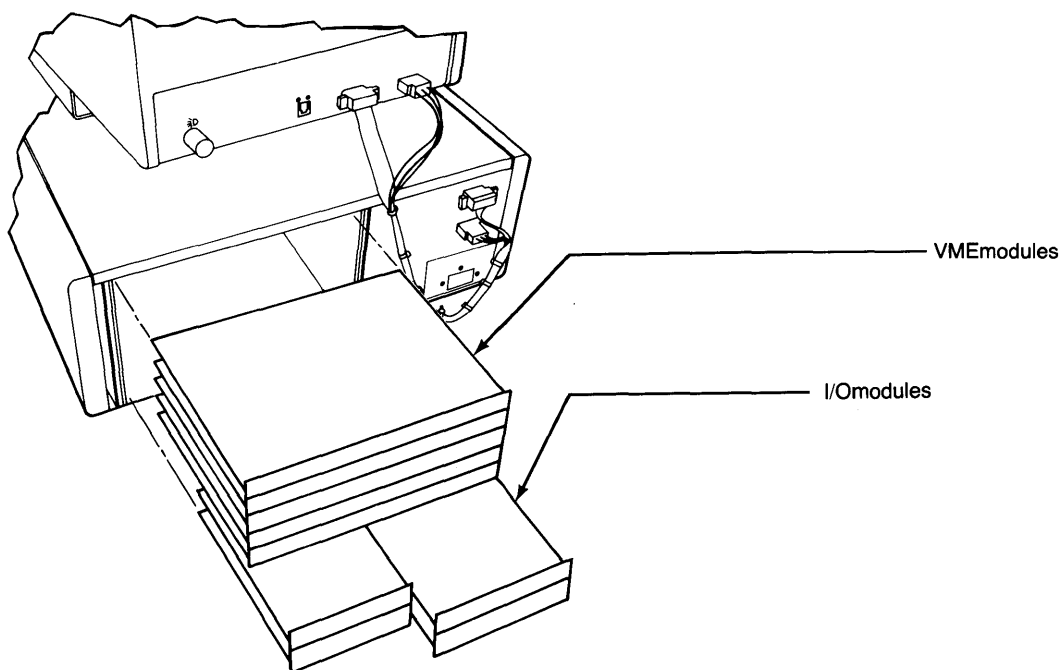

FIGURE 1-7. VMEbus and I/O Channel Module Expansion Card Cage Options
- Option #2 - Combination VMEbus and I/O Channel card cage, with 5-slot VMEbus backplane, accommodating up to five double wide VMEmodule boards, plus up to four single wide I/Omodules. All necessary I/O Channel cabling and connectors are installed to serve the four I/O Channel card slots. This card cage is standard with the 19.1M-byte Winchester disk model. Refer to Figure 1-7.